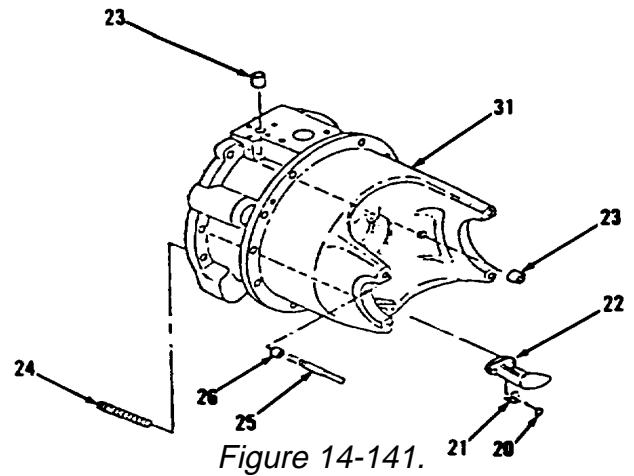
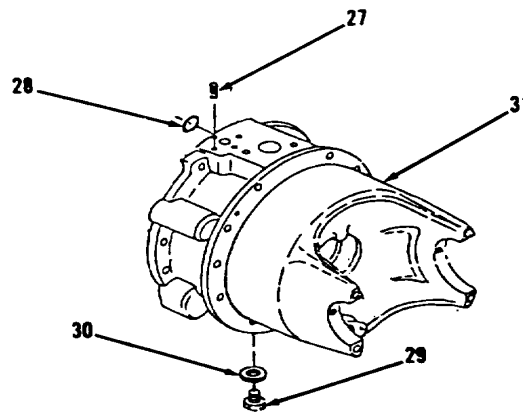

Figure 14-141.
Figure 14-142.
9. Remove cone bearing (15) and cup (16).
10. Remove and discard preformed packing (17).
11. Remove seal (18) and ring (19). Discard seal (18).
12. Remove two bolts (20), locks (21) and plate (22) from carrier (31, Figure 14-141).
13. Remove two sleeves (23).
14. Remove ten studs (24).
15. Remove four studs (25) and ferrules (26).
16. Remove plug (27) and preformed packing (28, Figure 14-142). Discard preformed packing (28).
17. Remove plug (29) and gasket (30) from carrier (31). Discard gasket (30). Remove all gasket material from mounting surfaces.